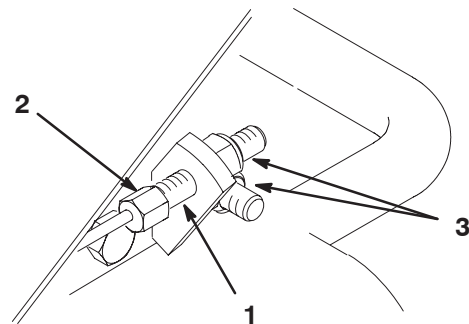

Figure 52
1. Tension the cable by securing the cable end hex with an open end wrench and turning the nut on the cable end with another wrench (Fig. 52).